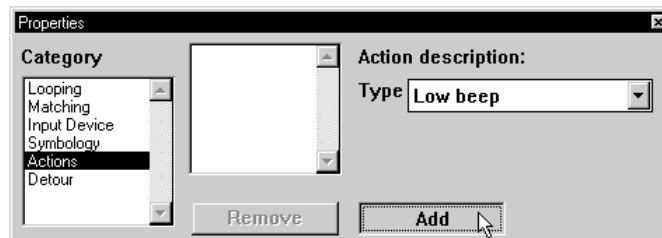
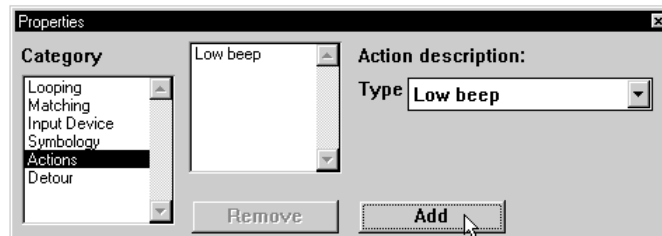

Figure 4-21 Click Add to Add Action to Action List
Figure 4-22 Action Added to Action List
23. Click **Add** (Figure 4-21) to add the **Low beep** action to the action list (Figure 4-22).